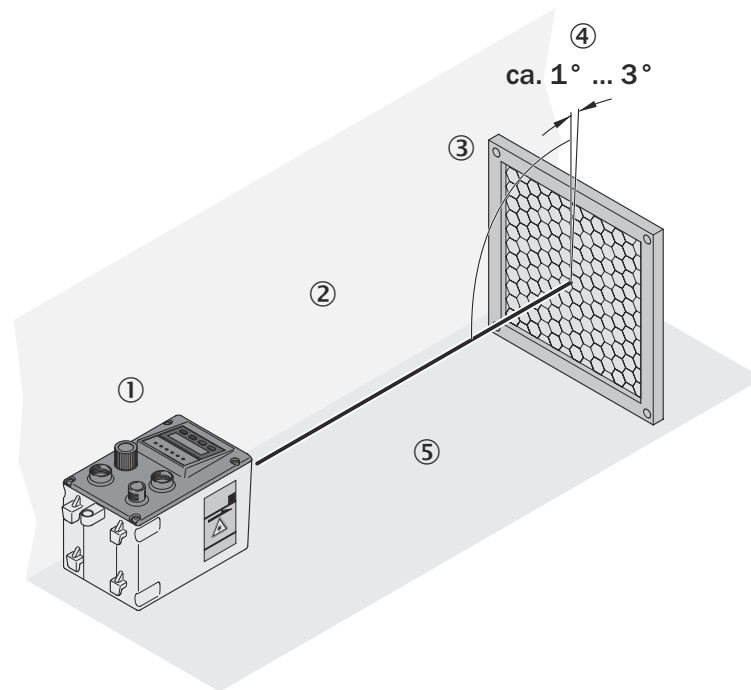

Figure 6: Reflector tilt for shiny surfaces and horizontal driving axis
- ① Distance sensor
- ② Tilt of the vertical axis of the reflector approx. $+1^\circ \dots +3^\circ$
- ③ Reflector
- ④ Tilt of the horizontal axis of the reflector approx. $+1^\circ \dots +3^\circ$
- If the sensor is mounted in the driving axis of an automated storage and retrieval system, tilt the reflector toward the ceiling away from the rail .see figure 6, page 20.